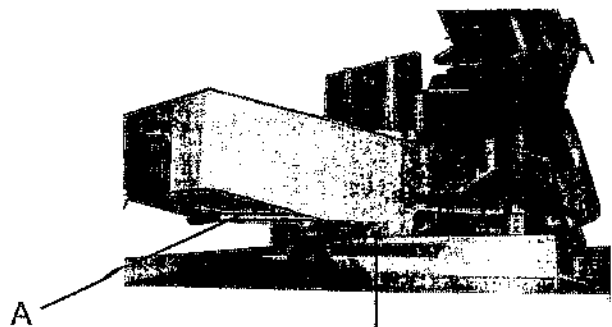
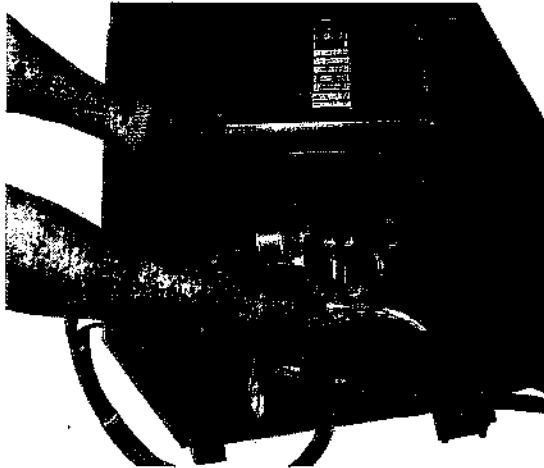

Fig.. 22
Fig. 23
2. Push the handle (A - Fig. 22) towards the hand wheel, and push the short handle (not shown) beneath the gearbox, towards the motor end of the saw to release the upper assembly.
3. Rotate the upper assembly using both hands as shown in picture (Fig. 23) to the desired angle by following the index on the scale (C - Fig. 22).
4. Pull the handle (A - Fig. 22) towards the motor end of the saw and the short handle towards the hand wheel to lock the upper assembly.